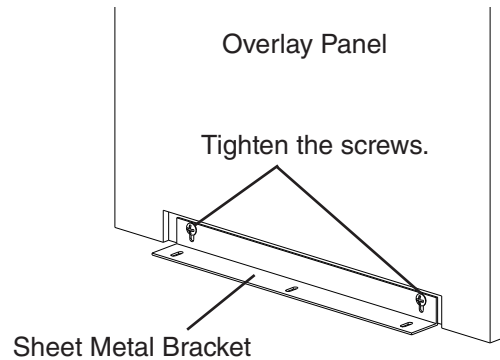

Fig. 23
- 4) Remove the overlay panel from the door and tighten the two M4x8 truss head screws securing the sheet metal bracket to the overlay panel. See Fig. 23.